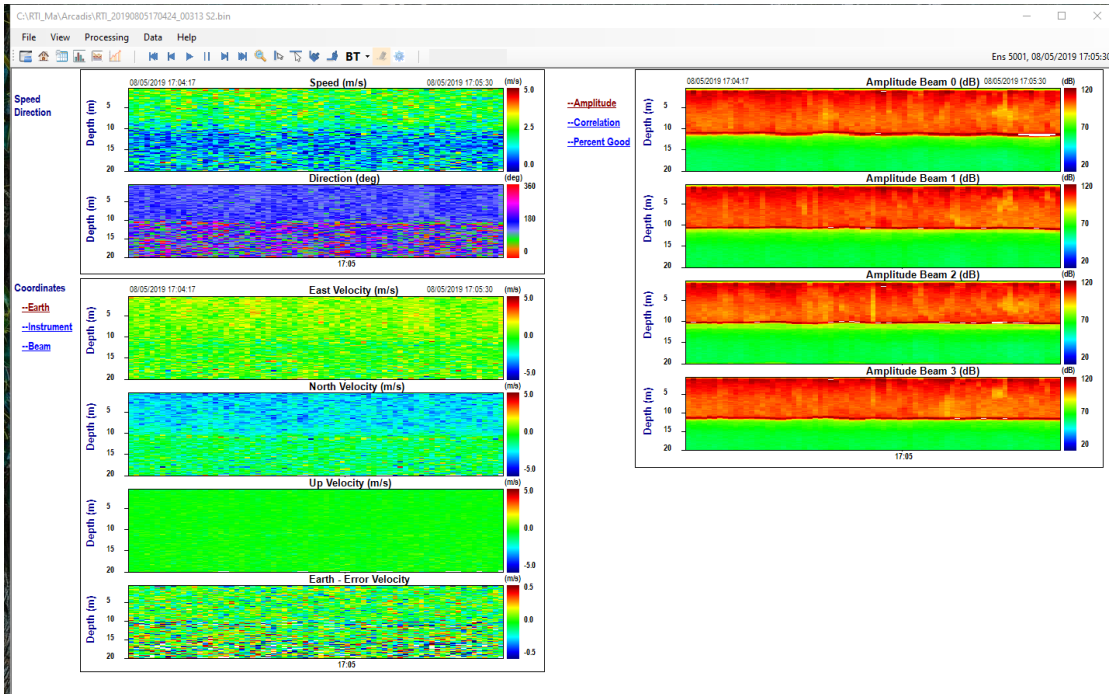
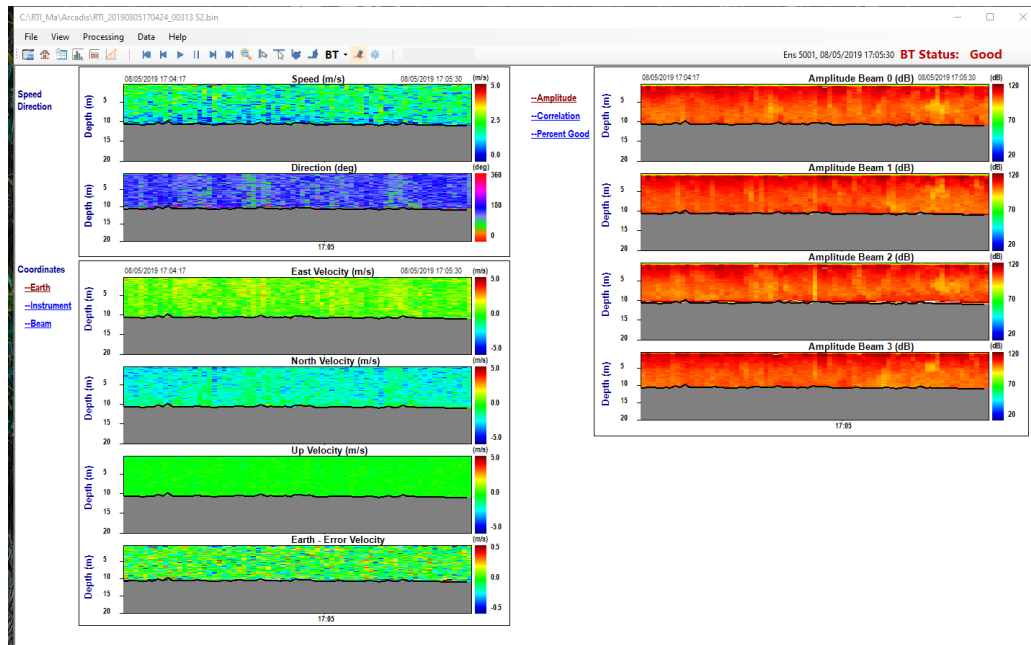

Figure 42. Contour Page with BT is OFF
Figure 43. Contour Page with BT is ON
Click **Contour**  page button from the **Tool bar** menu to switch to **Contour Page**. Figure 42 and Figure 43 show the contour page when BT is off and when BT is on, respectively. There are four areas on the page: the *Speed and Direction* part on the left top showing the *Speed and Direction* plots, the Coordinates area on the left bottom showing velocities of three different coordinates (Beam, Earth, Instrument), the right column shows the Quality Control (QC) parameter (Amplitude, Correlation and Percent good) data. If it's dual frequency or has vertical frequency data, each frequency will have a tab page, you can use the tab page buttons